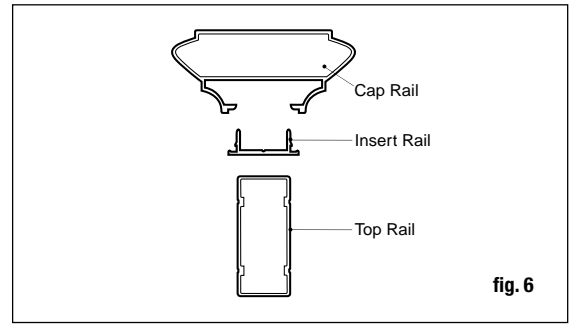

fig. 6
Step 13 (optional) Cut the cap rail and cap rail insert to length. (Note: the cap rail will be 1/2" longer than the top and bottom rails.) Center the cap rail insert on top of the top rail and pre-drill seven 1/8" pilot holes. Attach the cap rail insert to the top rail with seven 1/2" screws. Apply exterior-grade metal construction adhesive to the mating edges of the insert rail. Position cap rail over the insert rail (fig. 6). Install by pressing down, starting from one end and working to the other until the cap rail snaps into place. Gently tap with a rubber mallet if needed.